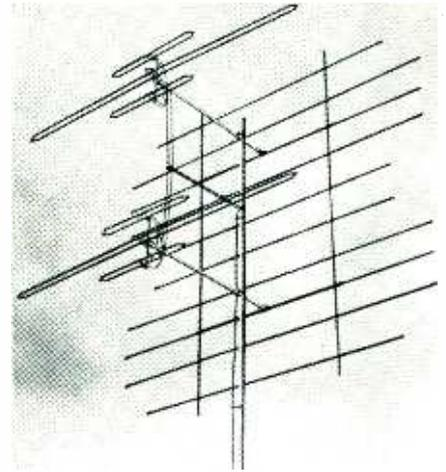

Fig. 1. Two-bay array of the twelve-channel v.h.f. antenna described here.
**A**MONG antenna manufacturers, there has been a steady trend toward the production of twelve-channel v.h.f. antennas to accommodate the many new TV stations on the air. This article will describe the development of a new type of antenna—the "Tri-pole"—used for TV reception of the entire v.h.f. band. (See Fig. 1.) The design of this antenna is based upon a study of the half-wave dipole antenna.